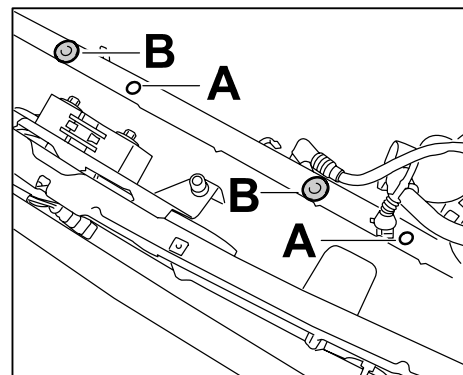

Figure 18
- 5.4 Remove plugs for bearing pins on new air cleaner housing (⇒ 997.110.025.00) from the old positions ⇒ *Figure 18-A-* and position them – offset to the left – into the bores ⇒ *Figure 18-B-* on the cross member.